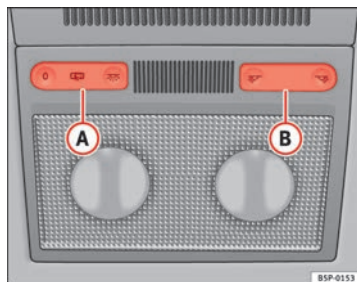
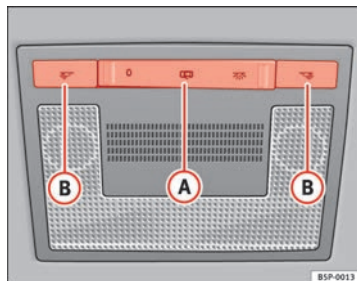

Fig. 80 Interior roof trim:
Fig. 81 Interior roof trim:
Press the corresponding button ⇒ Fig. 80 (B) and ⇒ Fig. 81 (B) to switch on the reading light.